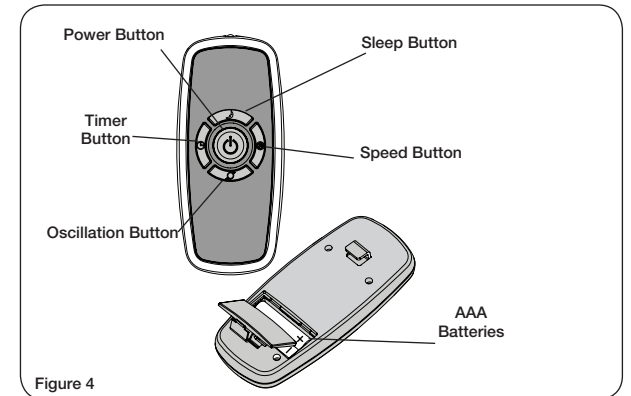

Figure 4
1. Install batteries supplied as shown in Figure 4. The battery is size "AAA".
This Fan may be operated by the Manual Controls located on front of the unit or by the Remote Control (shown in Figure 4).